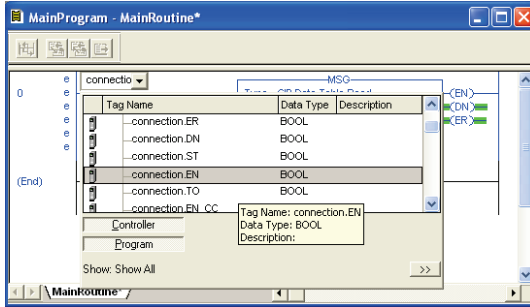

Figure 73: Configure XIO Element
- a) Double-click on the XIO element located to the left of the MSG block. In the drop-down box, double-click on the “connection.EN” field. Refer to Figure 73. This configuration causes the MSG instruction to automatically retrigger itself when it completes. While this is acceptable for the purposes of this example, it can produce high network utilization. In actual practice, it may be desirable to incorporate additional logic elements to allow triggering the MSG instruction at a specific rate or under specific conditions.